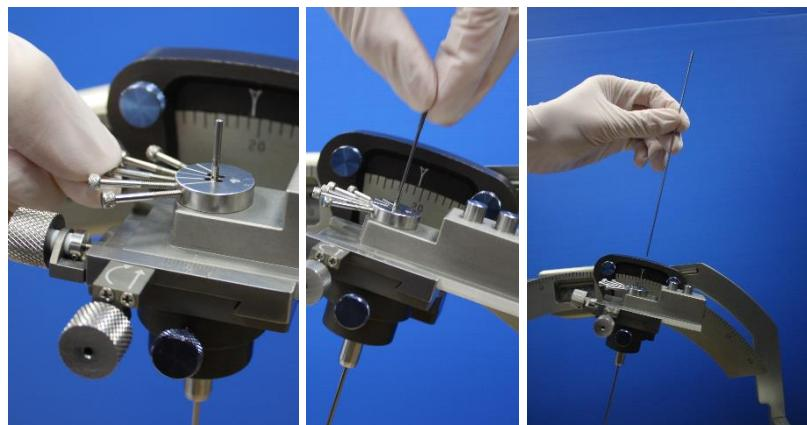

Figure 45: Tightening the Holding Screw and removing stylet
14. Tighten the Bengun screw (*Figure 45*), and then remove the stylet from the cannula.